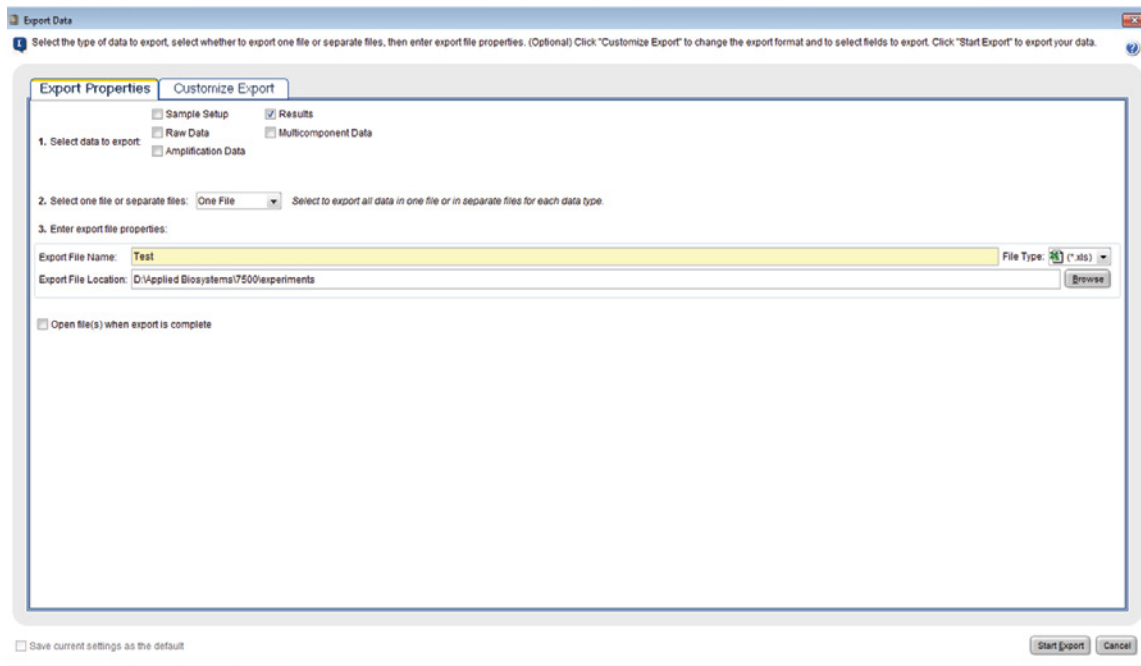

Figure 31. The 'Export Data' window.
2. On the 'Export Properties' tab of the 'Export Data' window (Figure 31), select the following Export Properties: